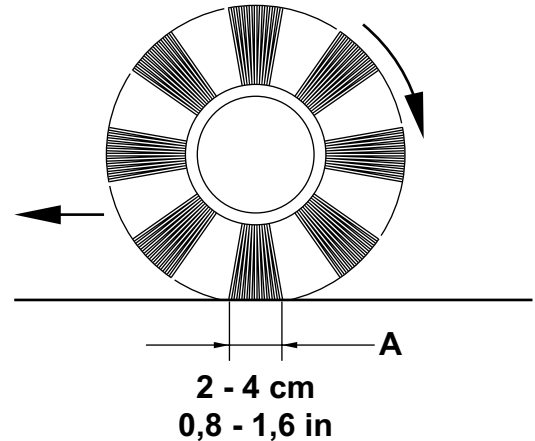

Figure 2
5. Check that the main broom print (A, Fig. 2), along its length, is 0.8 to 1.6 in (2 to 4 cm) wide.
6. If the print (A) is not within specifications, adjust the broom height.